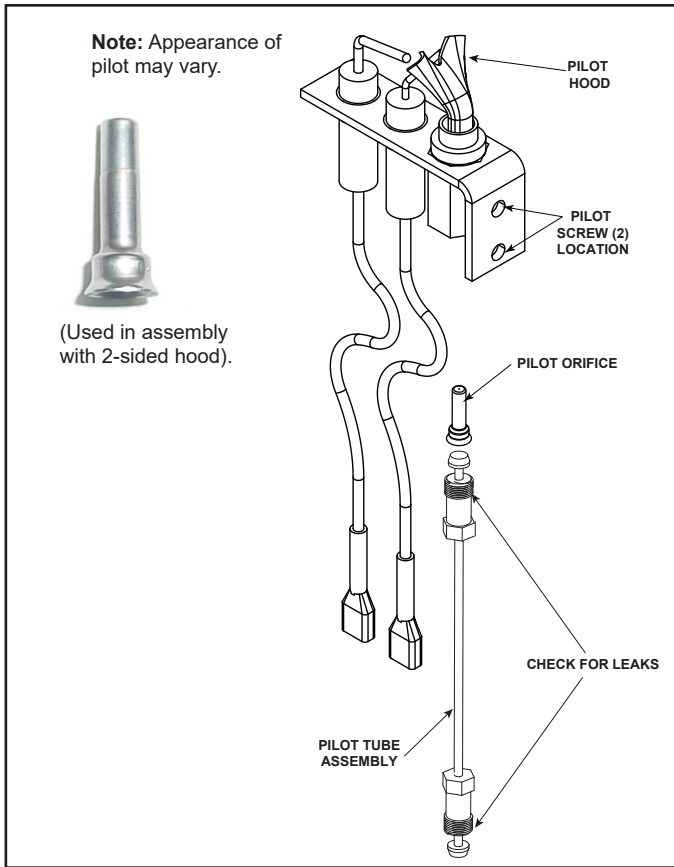

Figure 5
4. Grasp pilot firmly and loosen the pilot tube fitting. Remove the existing pilot orifice and replace it with the pilot orifice included in the kit. Ensure the pilot orifice is appropriate for the type of gas to which you are converting the appliance. See Figure 5.
9. Turn appliance "On" and use a commercially available, non-corrosive leak check solution to test for leaks around the pilot fitting. See Figure 5.
15. Reinstall Rear Cover using (3) screws previously removed.